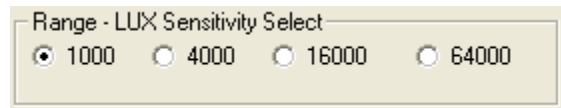

FIGURE 35.
**Range-LUX Sensitivity Select** allows the user to choose the sensitivity of the sensor based on external conditions/object detection. For example, a really bright object would require a higher range (i.e., 64000), versus a dark object, which would require a low range (i.e., 1000). Higher range reduces photo detector sensitivity (see Figure 35).